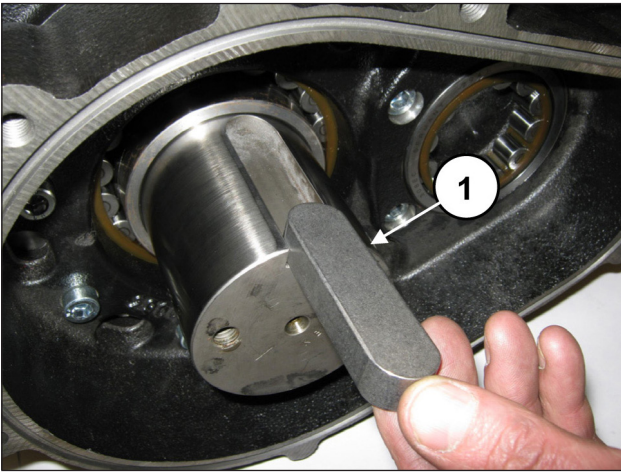
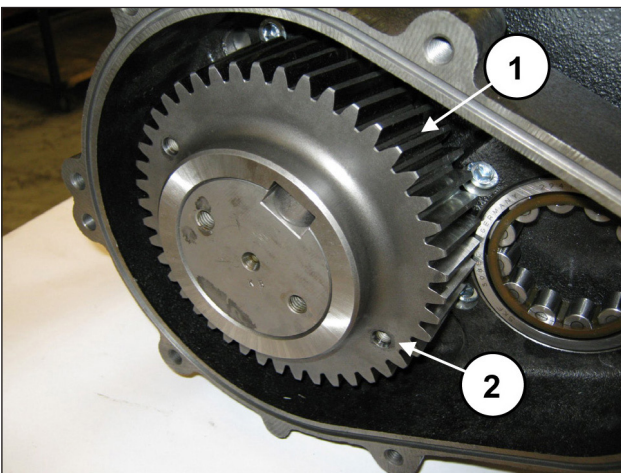

Fig. 74
Fig. 75
Apply tab 22x14x80 in the shaft housing (pos. ①, Fig. 74) and insert the ring gear on the shaft (pos. ①, Fig. 75).
**The ring gear must be assembled making sure that the two M8 holes (to be used for extraction) be turned outward of the pump (pos. ②, Fig. 75).**